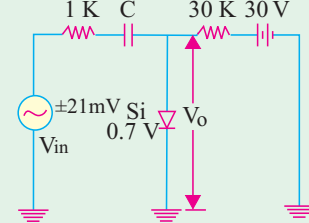

Fig. 52.51
3. In Fig. 52.51, signal voltage has a peak value of $\neq 21$ mV and its frequency is so high that reactance of the coupling capacitor can be neglected. If bulk resistance of the silicon diode is neglected, what